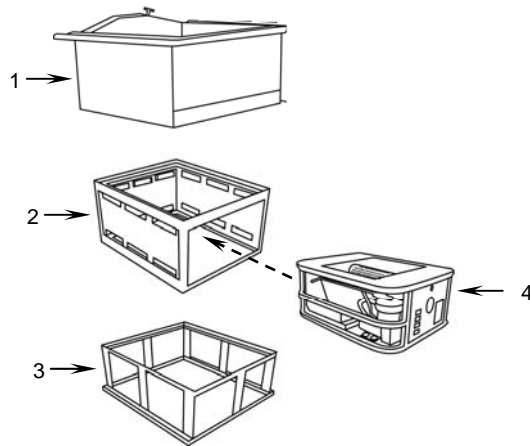

Figure 41. Disassembling the Sink Assemblies.
- f. Separate the sink assemblies (**Figure 41, Item 1**), burner racks (**Figure 41, Item 2**), and base racks (**Figure 41, Item 3**); leave the burner units (**Figure 41, Item 4**) in the burner racks (**Figure 41, Item 2**).